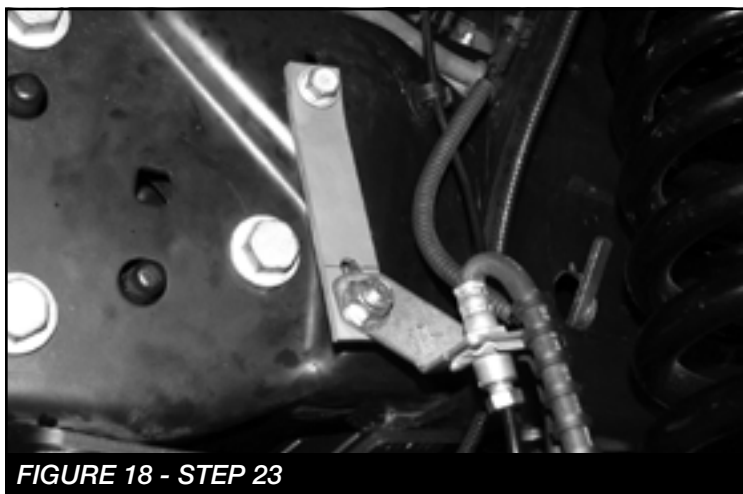

FIGURE 18 - STEP 23
23. **(DRIVER SIDE)** Install FT30660 (Brake line bracket) to the factory brake line tab using the supplied 3/8" hardware. Next, install the bracket to the frame using the factory hardware. Torque hardware to 52 ft-lbs. **SEE FIGURE 18**